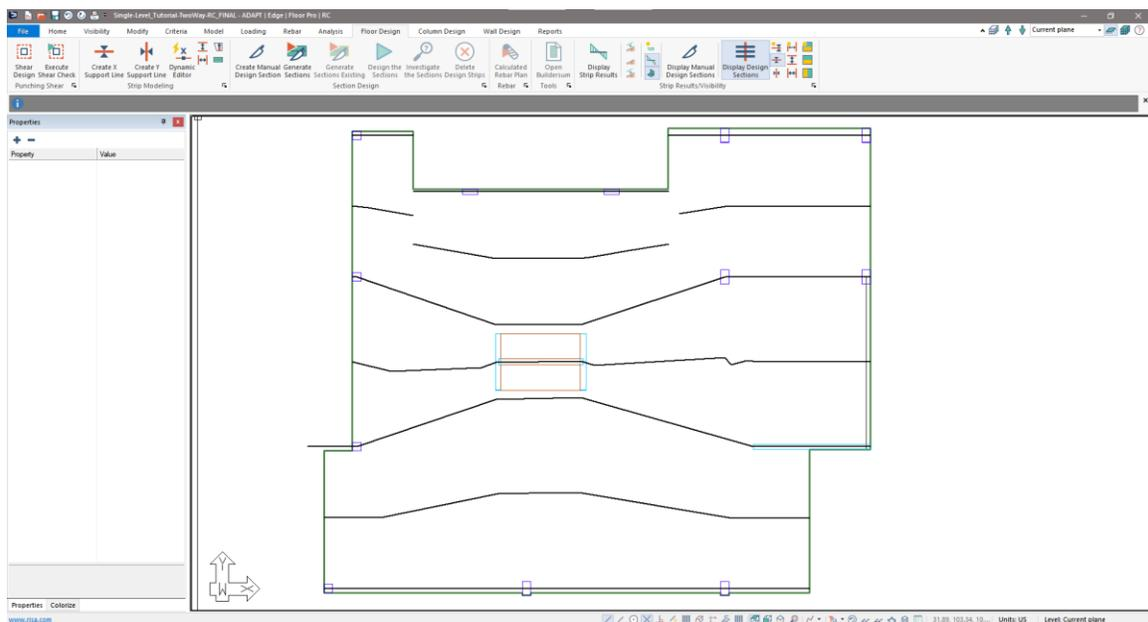

Figure 6-21
- Click *Close* on the *Support Line Dynamic Editor*. The user should now see the middle strips created on plan in with the column strips in black as shown in **FIGURE 6-21**.